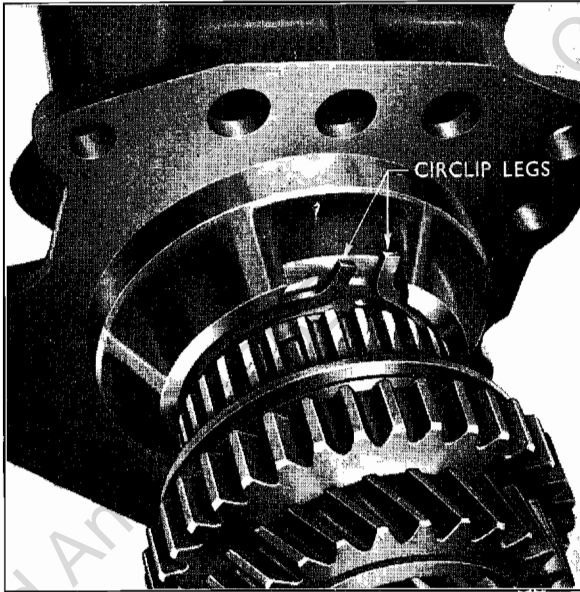

Fig. 11
(b) Compress the circlip retaining the main shaft bearing in the extension housing and withdraw the main shaft assembly (see Fig. 11).
**3. Install the main shaft assembly in the extension housing**, taking care not to damage the oil seal (if this has been previously fitted) as the splined end of the main shaft passes through this seal. Ensure that the main shaft bearing is correctly located in the extension housing and fit the retaining circlip so that the two legs are located in the cut-away portion of the extension housing as shown in Fig. 11.